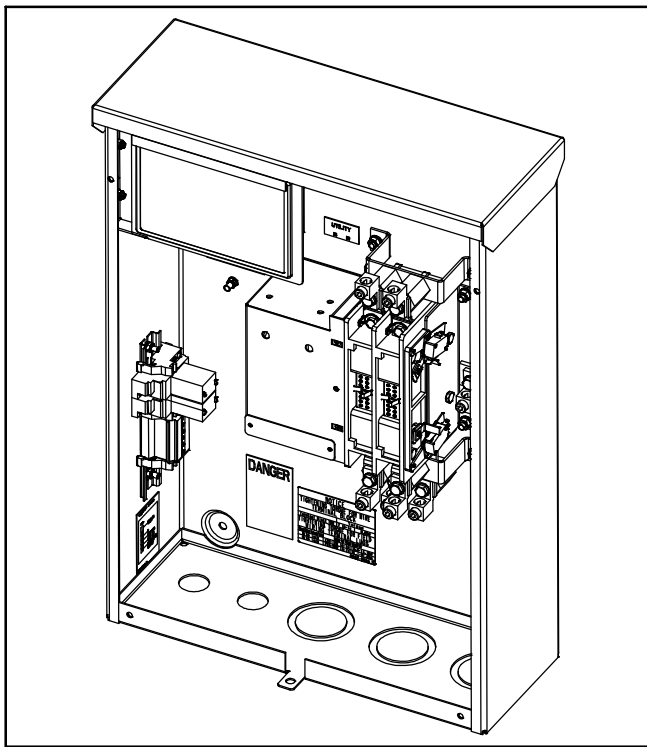

FIGURE 1-1. RSS TRANSFER SWITCH WITH CONTROLLER (WITH DOOR PANEL REMOVED)
- Section 2 provides information on how to troubleshoot transfer switches that include a controller (see Figure 1-1).
The load is connected to the common of the transfer switch (Figure 1-1). Under normal conditions, the load is supplied with power from the utility (as illustrated). If utility power is interrupted, the load is transferred to the generator. When utility power returns, the load is retransferred to the utility. The transfer and retransfer of the load are the two most basic functions of a transfer switch.